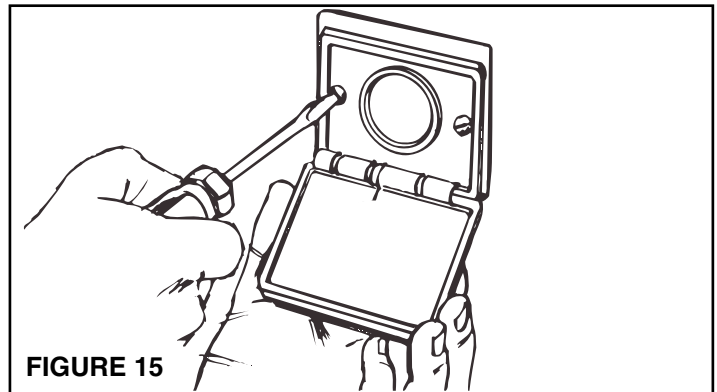

FIGURE 15
6. **Refer to Figure 15.** Place inlet into mounting bracket and secure.